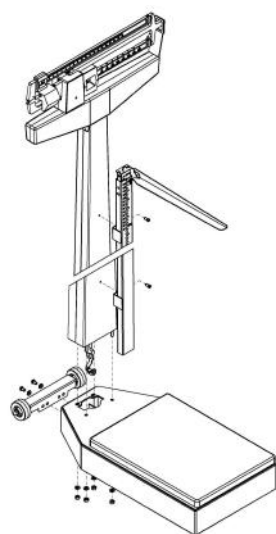

Fig. 1
2. Fix the wheels assembly to the base with the 2 screws & washers. (Fig.1)
3. Fix the measuring ruler to the two hexagonal-head screws pre-assembled on the column. (Fig.1)
4. Fix the measuring ruler by tightening the hexagonal-head screws using the relative wrench. Don't tighten too much! (Fig.1)